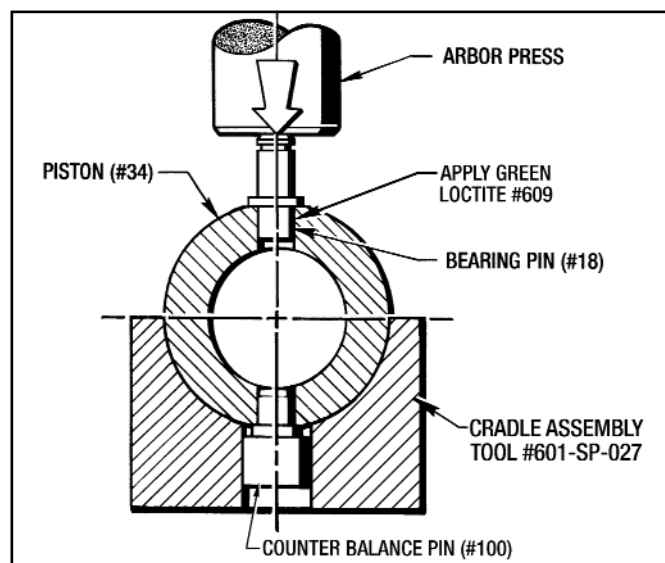

Figure 7.6 - Installing Bearing Pin (#18)
7-6 INSTALLING PISTON BEARING SUB-ASSEMBLY INTO THE PISTON (See Figures 7.6, 7.7 and 7.8)
2. Place the Piston (#34) into the Cradle Assembly Tool #601-SP-027 and press the Bearing Pin (#18) into the Piston (#34) as shown in Figure 7.6.